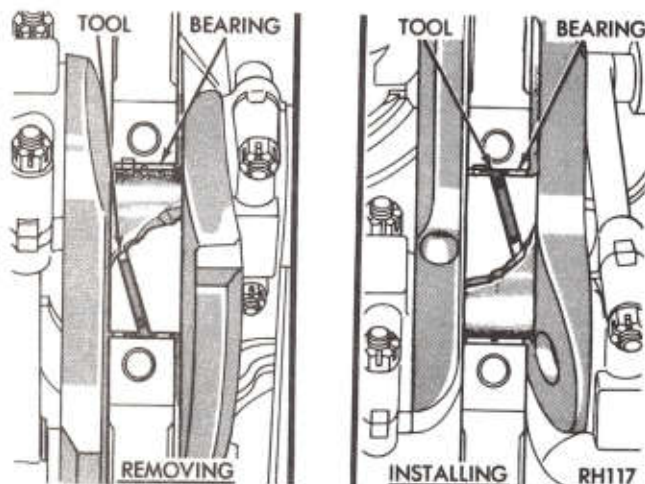

Fig. 48—Removing and Installing Upper Main Bearing with Tool C-3059
- (1) Remove oil pan and identify bearing caps before removal.
- (2) Remove bearing caps one at a time. Remove upper half of bearing by inserting Tool C-3059 (Fig. 48) into the oil hole of crankshaft.
- (3) Slowly rotate crankshaft clockwise, forcing out upper half of bearing shell.
- (1) Start bearing in place, and insert Tool C-3059 into oil hole of crankshaft (Fig. 48).
- (2) Slowly rotate crankshaft counter-clockwise sliding the bearing into position. Remove Tool C-3059.